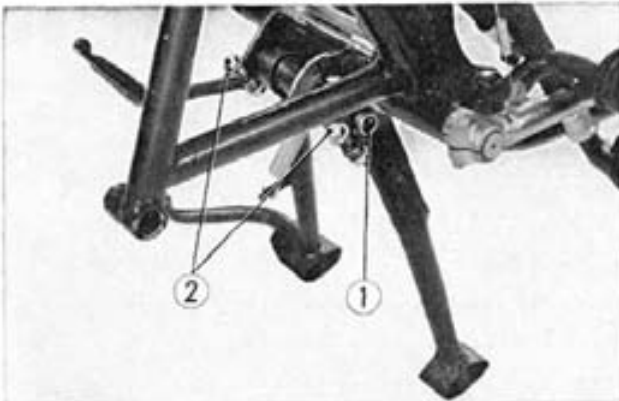

Fig. 15-2 ① Cotter pin
6. Remove the cotter pin from the main stand shaft collar and remove the two mounting bolts. (Fig. 15-2)